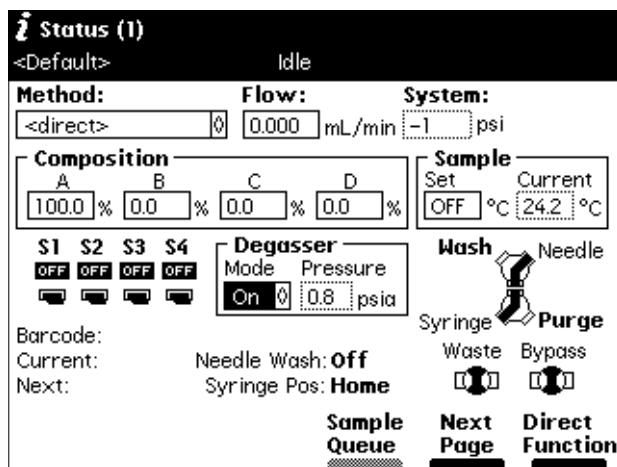

Figure 1-19 Status Screen
1. Press the **Menu/Status** key. The Status screen appears (Figure 1-19).